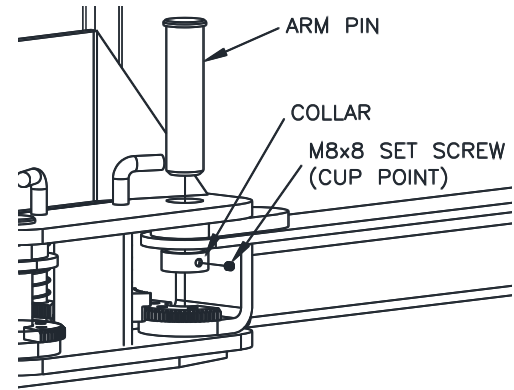

Fig. 11 –Arm Install
- 31) Lubricate the arm pin or carriage arm pin hole with “anti-seize” and install the arms as shown in Fig 11. Once the set screw is finger tight against the arm pin, tighten 1/4 turn with hex key.